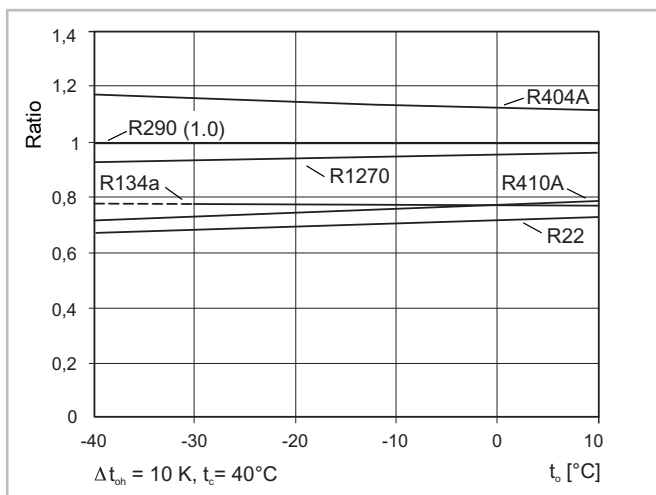

Fig. 6: Liquid volume flow of various refrigerants compared with R290 at identical refrigerating capacities
- Identical dimensions of the liquid line such as for R22 (higher liquid volume flow, but lower pressure drop due to lower density), see figure 6, page 23.